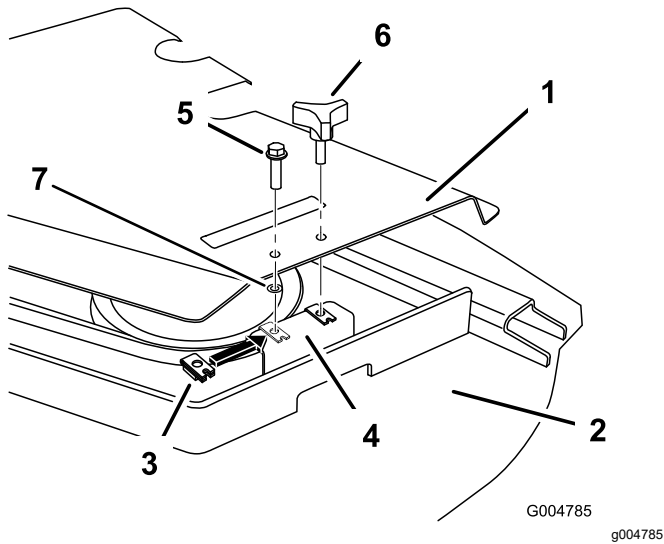

Figure 8
3. Install a retaining nut at the forward hole in the deck bracket (Figure 8).
4. Install the belt cover with the bolt (5/16 x 1-1/4 inches) and push nut (5/16 inch) as shown in Figure 8.